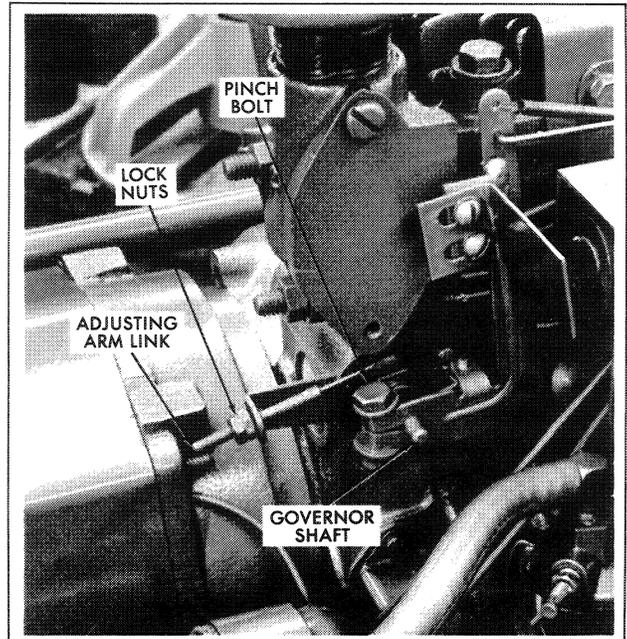

Figure 2-27. Idle Speed Adjustments—
KOHLER POWERED (3.5-5 kW)—See Figure 2-27
4. With governor arm and throttle plate held in idle position, push plate against solenoid and tighten screw securing plate to governor arm. See Figure 2-27. On 3.5 and 5 kW models, the slotted portion of plate must be installed away from solenoid, as shown in Figure 2-27.